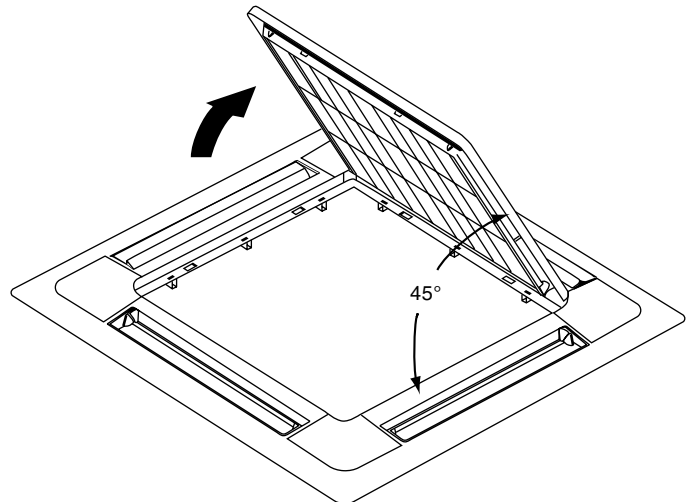

Fig. 2
- 2) Detach the suction grille from the decoration panel by lifting the grille up approximately 45 degrees. (Refer to Fig. 2)